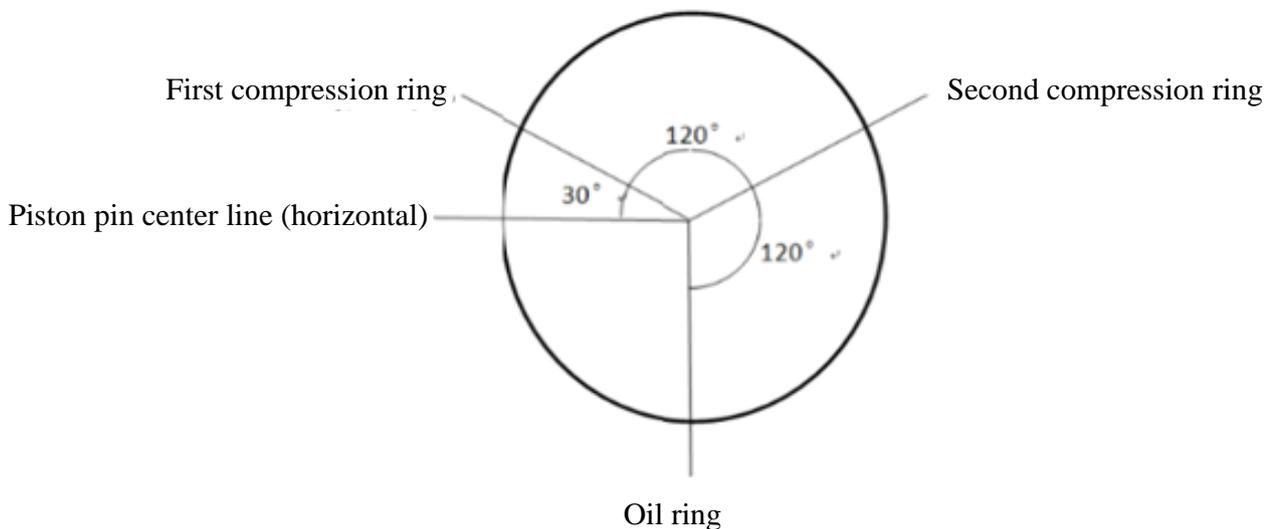

Fig. 3-28 Schematic diagram for installation of piston rings
- (3) Arrange the assembled piston-rod assembly in cylinder number order, and then install oil ring, second compression ring and first compression ring into piston ring grooves orderly with piston ring plier. The face with mark “TOP” should be upward, and the ring should be flexible in ring groove.
- (4) Clean up cylinder inner wall, crankshaft connecting lever and piston-rod assembly, and apply clean lubricating oil on each motion pair.
- (5) Adjust opening direction of each ring: The opening direction of first compression ring should be  $30^{\circ}$  to piston pin center line, opening direction of the second compression ring should be  $120^{\circ}$  to that of the first compression ring, and opening direction of oil ring should be  $120^{\circ}$  to both that of first compression ring and second compression ring, also should be perpendicular to piston pin center line. As shown in Fig. 3-28.
- (6) Rotate the flywheel with external force until cylinder 1, 6 get to BDC, install thrust plates of cylinder 1 and 6 (refer to section 337), and screw on connecting rod bolts. Rod parting surface should face left side of cylinder block (i.e. engine oil cooler side). The numbered pistons should not be mixed, install each piston to the corresponding cylinder; connecting rod cap and connecting rod should be used in pairs, apply clean lubricating oil on connecting rod bolts before assembling.